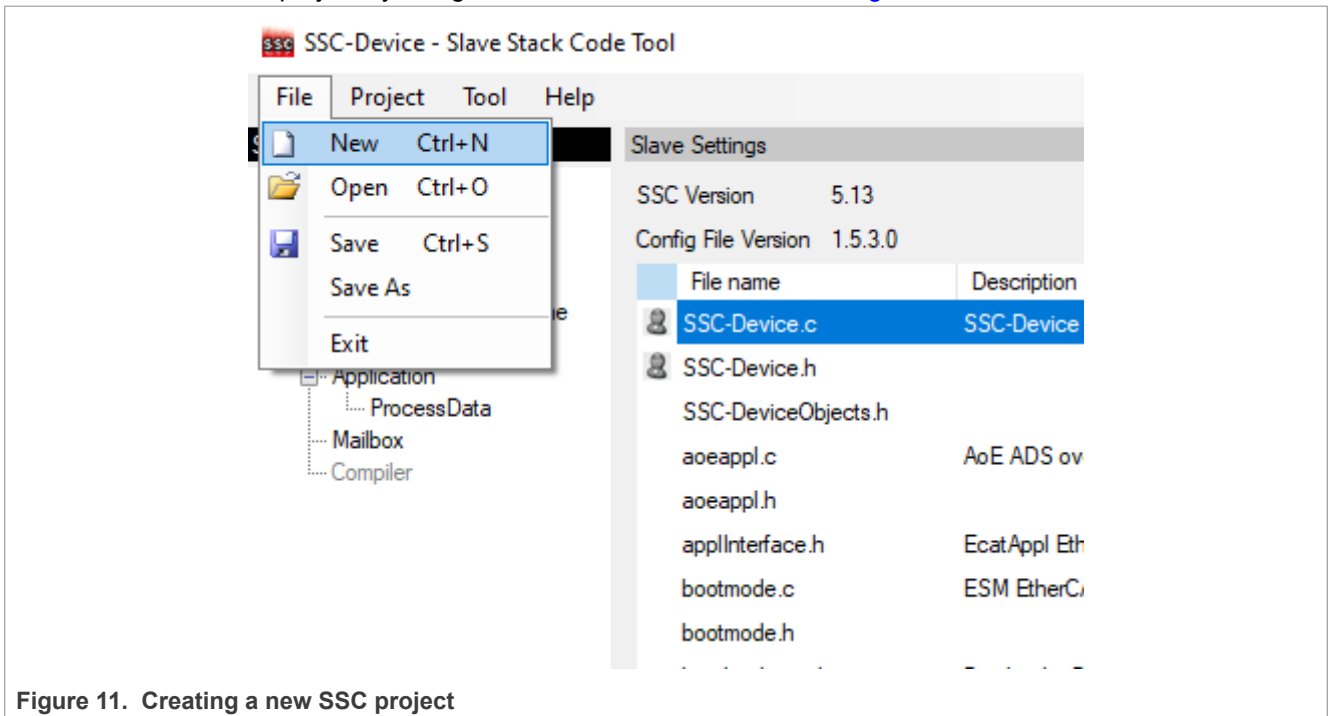

Figure 11. Creating a new SSC project
3. Create a new SSC project by using **Select File > New** as shown in Figure 11.